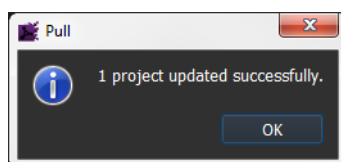

Fig. 4-93: Pull Message
- 5 When the pull is complete a 'pulled successfully' message is shown. See Figure 4-93.